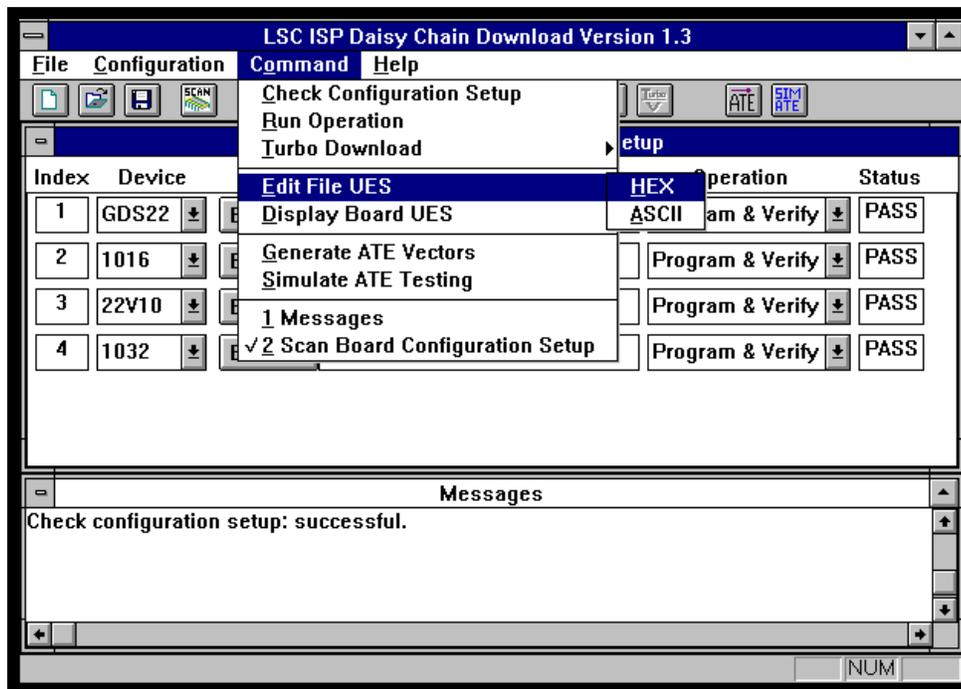
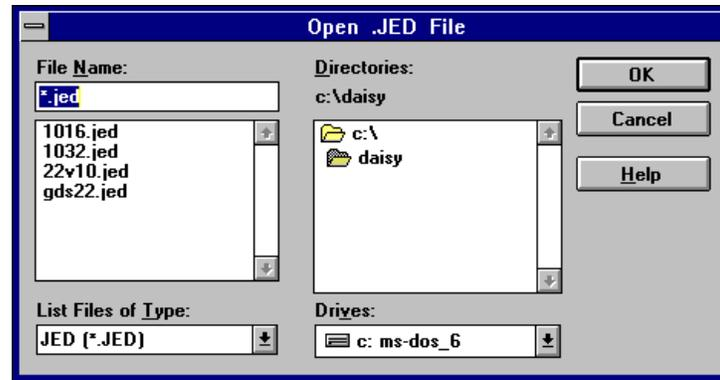

Figure 3-18. **Command** ⇒ **Edit File UES** ⇒ **HEX** Menu Option
Figure 3-19. Open .JED File Dialog Box
1. Select **Command** ⇒ **Edit File UES** ⇒ **HEX** or the **write UES** icon from the ISP Daisy Chain Download menu to edit a UES (Figure 3-18). The icon defaults to hexadecimal format. You may also select the **ASCII** option. If the UES dialog box exists, this function brings the UES dialog box to the foreground. Otherwise, The Open .JED File dialog box appears (Figure 3-19).